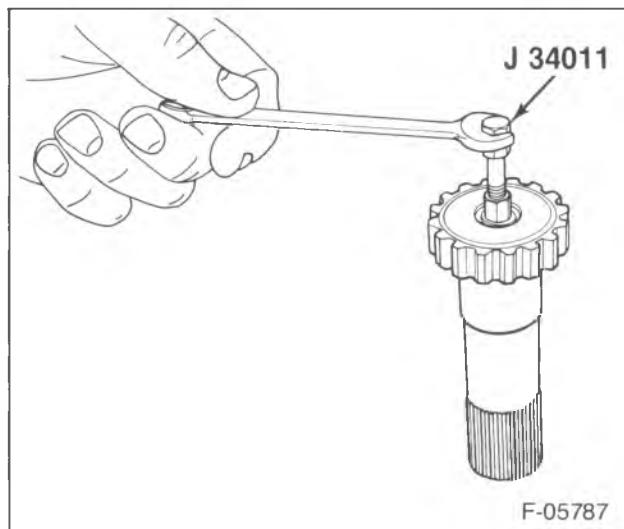
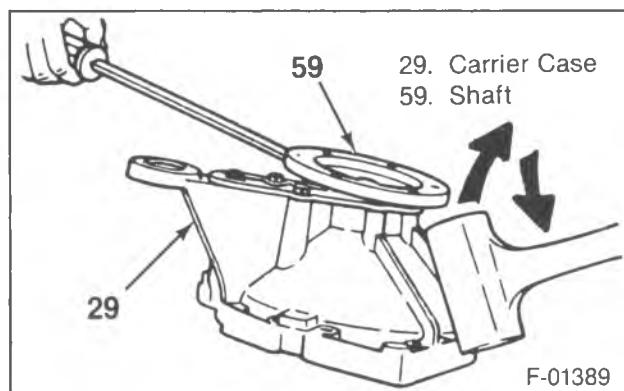

Figure 4—Removing the Output Shaft
Figure 5—Removing the Axle Shaft
7. Seal (15) from the tube (5). Pry out with a screwdriver.
8. Thrust washer (20).
9. Sleeve (22) and output shaft (23).
10. Differential pilot bearing (21) from the output shaft, using J 34011 (figure 4).
11. Washer (24).
12. Shaft (59), and deflector (2).
- Pry with a screwdriver between the shaft flange and carrier head while striking the flange with a soft face hammer (figure 5).
13. Bolts (58) and cover (57).
14. Left seal (3).
15. Bolts (28).
16. Separate the carrier case (29).